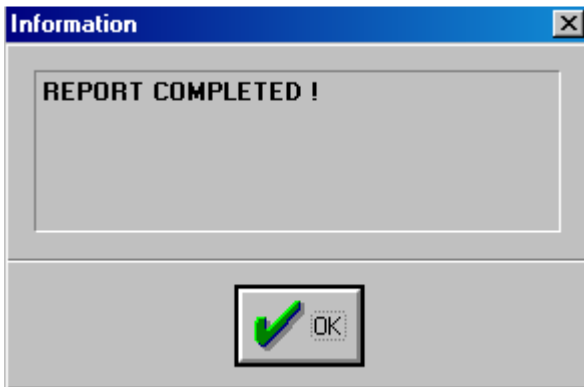

Figure 1.3.
3.2. Select **Build Report** in **VisiXcel** menu (see Figure 1.3) and create intermediate VisiXcel file (Figure 3.3) corresponding to this project (see par. 1.2 and 1.3 above).